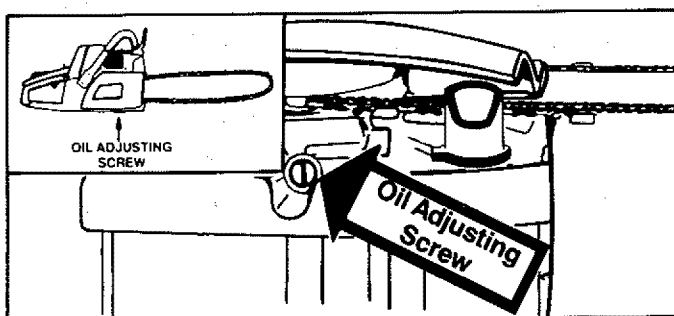

Figure 12
2. Check the tension by lifting the chain from the guide bar at the center of the bar. Figure 12.